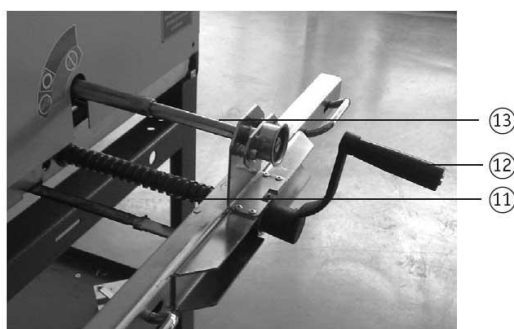
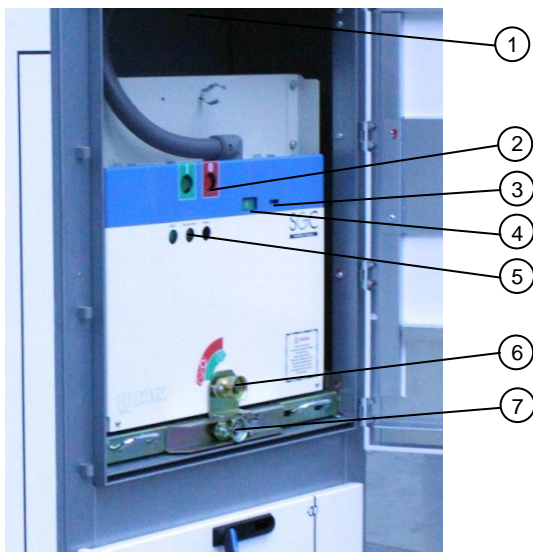

Figure 18
Figure 19
4.4.2 Insertion from the test/disconnected position to the service position (Fig. 18)
Before the control wiring insertion plug shall be connected to the switchgear panel socket (Fig. 19); for draw-out units with interlocking electromagnet (installed on request) it shall be energized; the circuit breaker compartment door shall be closed and the ISM shall be opened. Racking mechanism is operated by fitting the operating handle on the square head (Fig. 18) and turning the handle clockwise according to the sticker until the stop is reached and the draw-out unit is in the service position.
Note: When removing the handle, it is essential that the springloaded socket head (Fig. 18) slides into the untensioned front position. Spiral spindle is thus locked in place, preventing inadvertent turning of the spiral spindle turning of the spiral spindle opens auxiliary switches⁽²⁾ and thus signals position of draw-out plate.
4.4.3 Withdrawal from the service position into the test/disconnected position (Fig.19)
4.4.4 Withdrawal from the test/disconnected position onto the service truck (Fig. 19)
4.5.1 ISM manual «Trip» and locking operation (Fig. 19)
ISM manual «Trip» and locking operation is activated by turning the operating handle (the same with the racking mechanism handle fitted on square head of the interlocks through the hole) when the circuit breaker compartment door is closed (Fig. 19).
4.5.2 ISM unlocking operation (Fig. 19)
The ISM manual unlocking operation is activated by turning operating handle fitted on square head of the interlocks through the hole when the circuit breaker compartment door is closed (Fig. 19).
4.5.3 ISM electrical «Close» operation (Fig. 19)
4.5.4 ISM electrical «Trip» operation (Fig. 19)
4.5.5 ISM main contacts position indicating (Fig. 19)